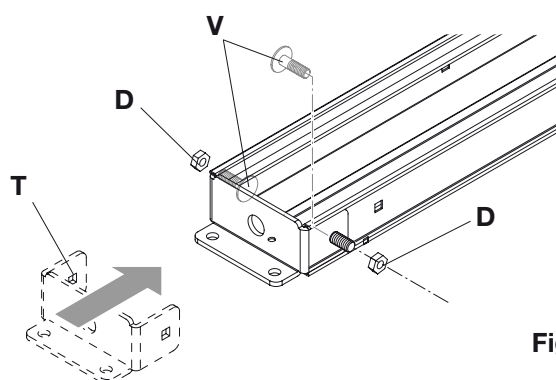

Fig.15
2) Apply bracket T to the end of the track as indicated in figure 15 and then insert the two screws V from inside the track. Fix the bracket using the 2 nuts D.